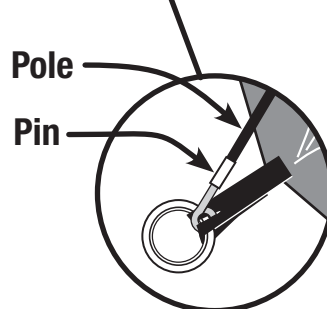

Fig. 4
- Go to opposite end of pole and carefully insert the pin into the other pole end. (Fig. 4)